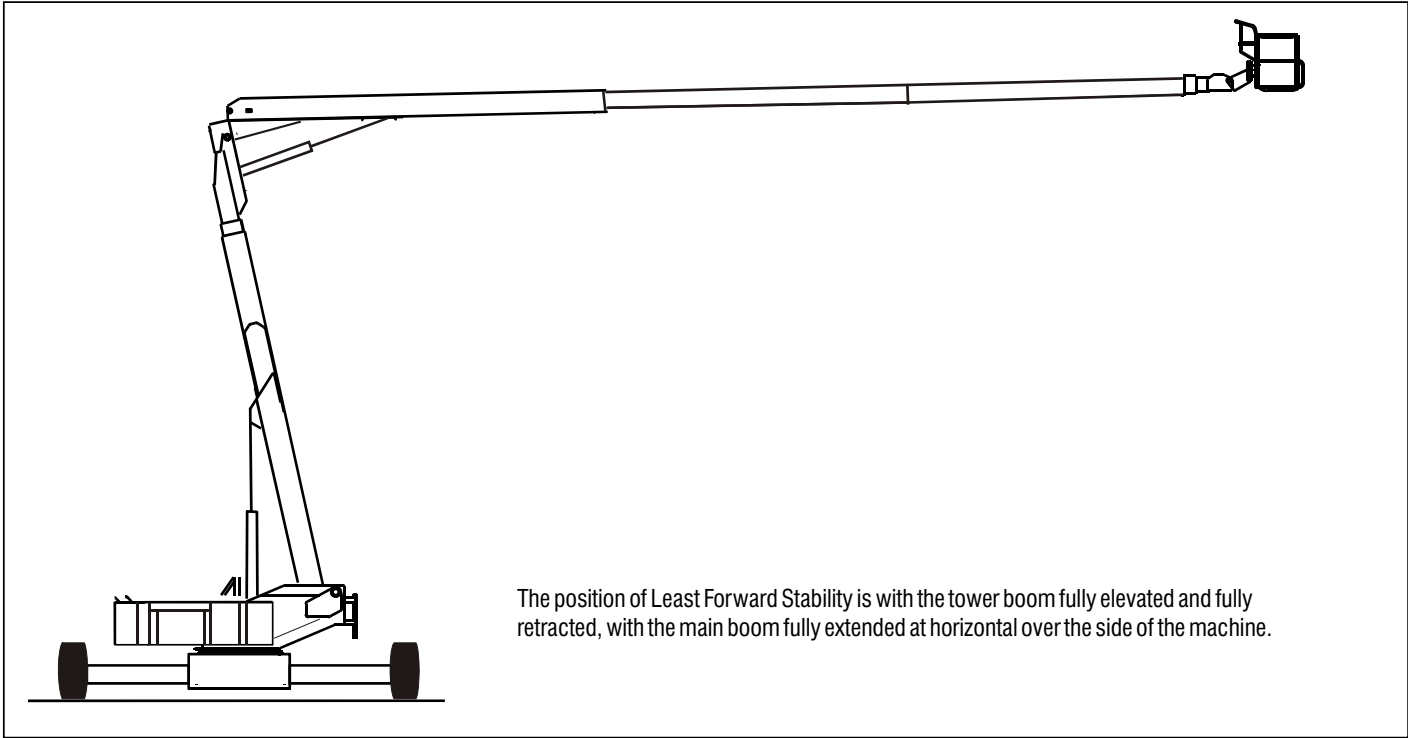
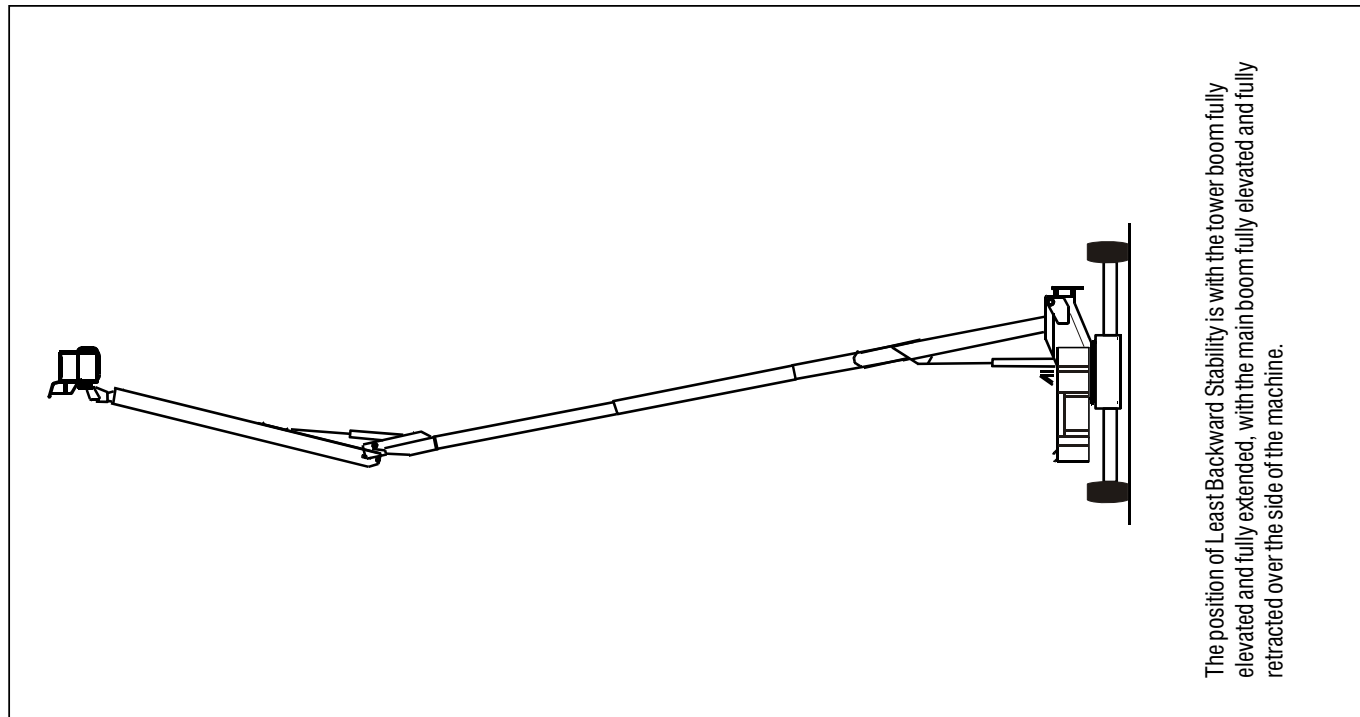

Figure 4-1. Position of Least Forward Stability
Figure 4-2. Position of Least Backward Stability
Machine stability is based on two (2) positions which are called FORWARD stability and BACKWARD stability. The machine's position of least FORWARD stability is shown in Figure 4-1., Position of Least Forward Stability, and it's position of least BACKWARD stability is shown in Figure 4-2., Position of Least Backward Stability.